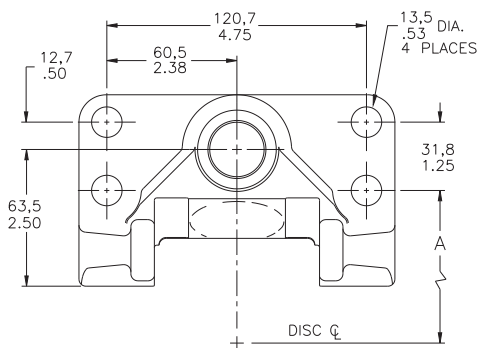

FIGURE 4
2. Using TABLE 2 and Figures 4 and 5 on page 2, determine "A" dimension and locate mounting bracket assembly holes.